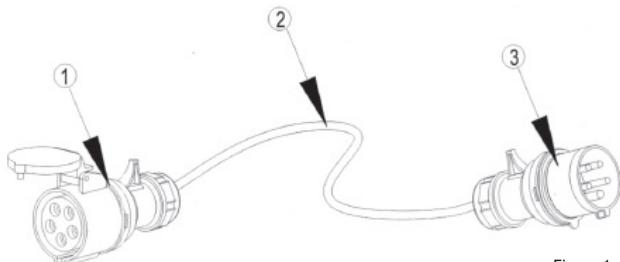

Figure 1
- The user must use the purchased power cord as shown on 'figure 1'. The power cord must match with the device and extend the earthing. The power cord must be NEN-approved.